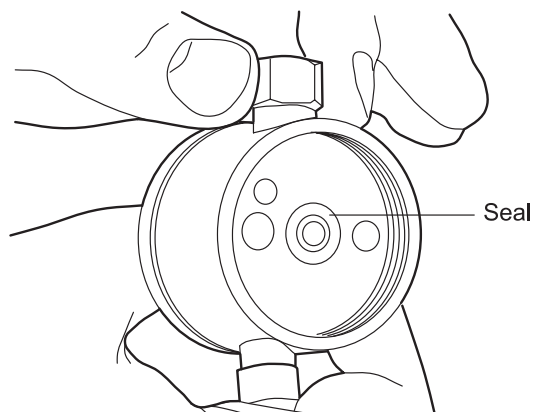

Figure 4-7 Plunger Seal Orientation
3. Using the seal insertion tool stand tip, pry the seal out of the pump head (Figure 4-7). The stand tip holds the plunger seal for correct alignment in the pump head.